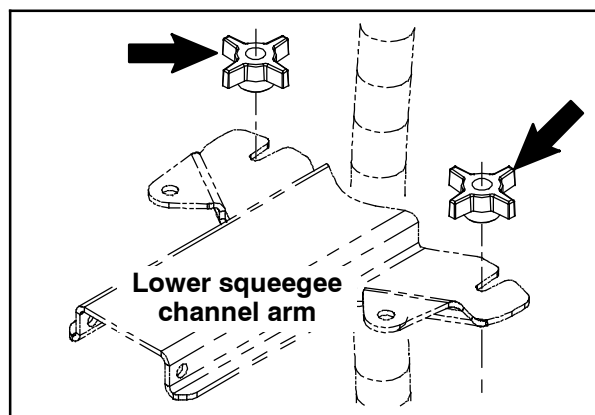

FIG. 1
2. Remove the knobs holding the rear squeegee assembly onto the lower squeegee channel arm. Refer to Fig. 1.